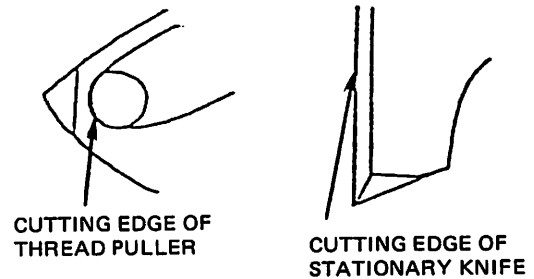

Fig. 12
8. The bobbin and needle threads are severed when the cutting edge of the thread puller closes in against the cutting edge of the stationary knife. (Fig. 12 and 13)